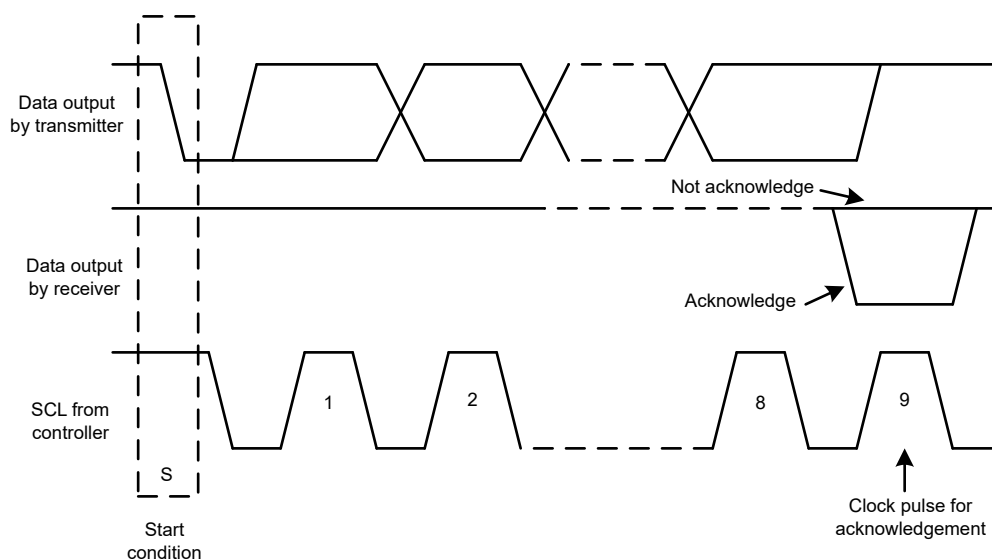
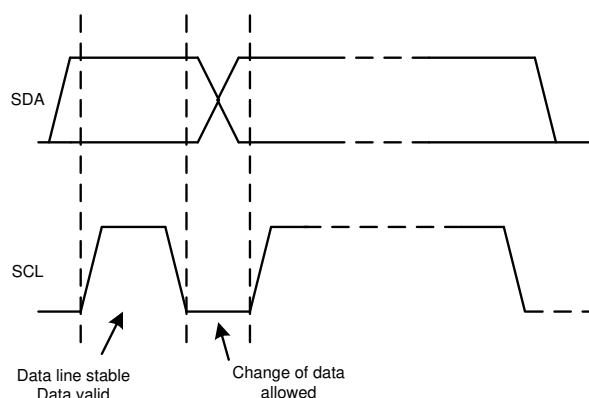

图 7-18. Acknowledge and Not Acknowledge on the I²C Bus
图 7-20. Bit Transfer on the I²C Bus
Other than specific timing signals, the I²C interface works with serial bytes. At the end of each byte, a ninth clock cycle generates and detects an acknowledge signal. An acknowledge is when the SDA line is pulled low during the high period of the ninth clock cycle. Figure 7-18 depicts a not-acknowledge, when the SDA line is left high during the high period of the ninth clock cycle.
2. The controller then generates the SCL pulses, and transmits the 7-bit address and the read/write direction bit (R/\overline{W}) on the SDA line. During all transmissions, the controller makes sure that data are valid. 图 7-20 shows that a valid data condition requires the SDA line to be stable during the entire high period of the clock pulse. All devices recognize the address sent by the controller and compare the address to the respective internal fixed address. Only the target device with a matching address generates an acknowledge by pulling the SDA line low during the entire high period of the 9th SCL cycle (see also 图 7-18). When the controller detects this acknowledge, the communication link with a target has been established.